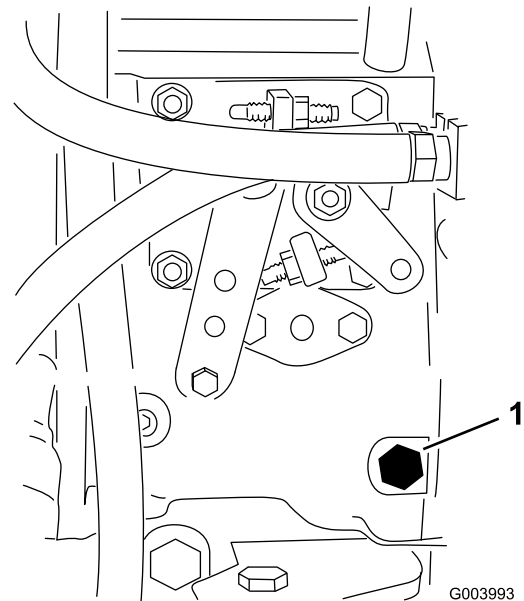

Figure 36
3. Open the air bleed screw on the fuel injection pump (Figure 36) with a 12 mm wrench.